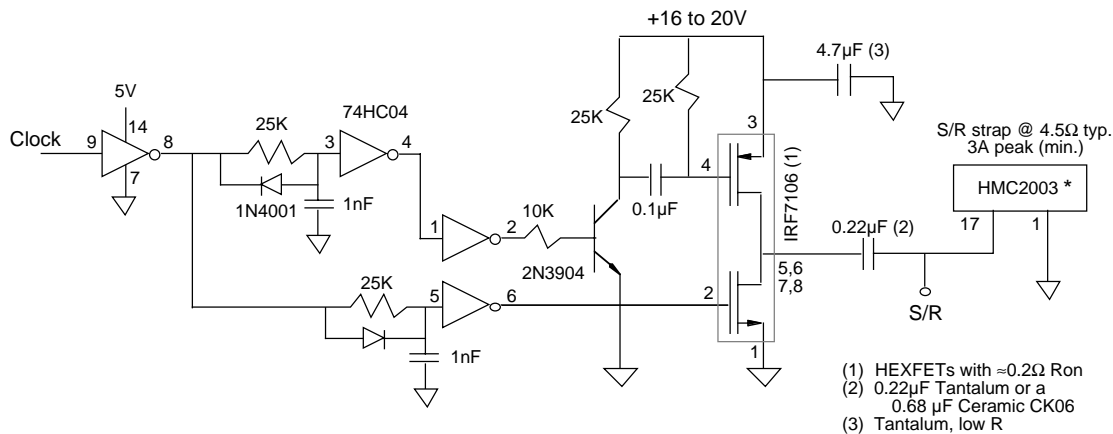

**Figure 6—Single Clock Set/Reset Timing**
**Single Clock Circuitry**—Some form of clock is needed to trigger the set and reset pulses (Figure 6) to create the switching signal. The circuit shown in Figure 8 can be used to create a strong (>4Amp) pulse. The diodes, resistors, capacitors and inverters basically create the TRS and the TSR delays. Now a single signal (Clock) can trigger a set or reset pulse. The minimum timing between the rising and falling edges of Clock are determined by the 25KΩ and 1nF time constant. That is, the minimum high and low time for Clock is  $\approx 25 \mu\text{s}$ .